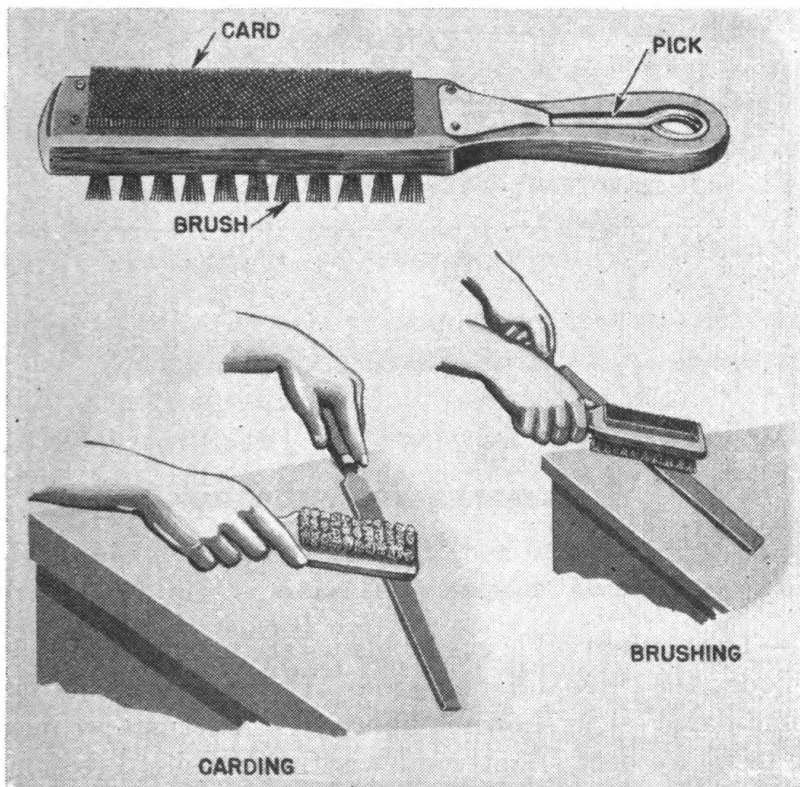

FIGURE 24.—Cleaning a file.
(3) *Cleaning.*—If a file is pinning or not cutting properly, it should be cleaned with a file card, pick, and brush. (See fig. 24.) The pick is a small, pointed wire instrument, often furnished with a file card, for cleaning out individual cuts in the file clogged too tightly with metal to clean with a file card. When cleaning a file, lay it flat on the bench and draw the file card and brush back and forth across it parallel with the cuts. Finish by brushing the file lengthwise.